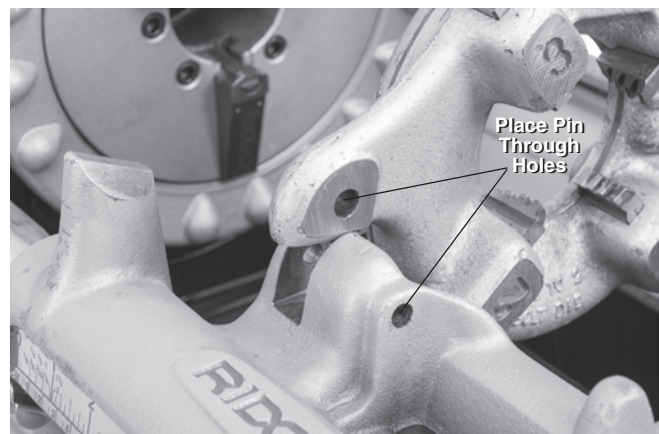

Figure 26 – Retaining LH Die Head in Place
- Place a 5/16" pin 2" long through the holes in carriage rest and left hand die head to retain in place (see Figure 26).